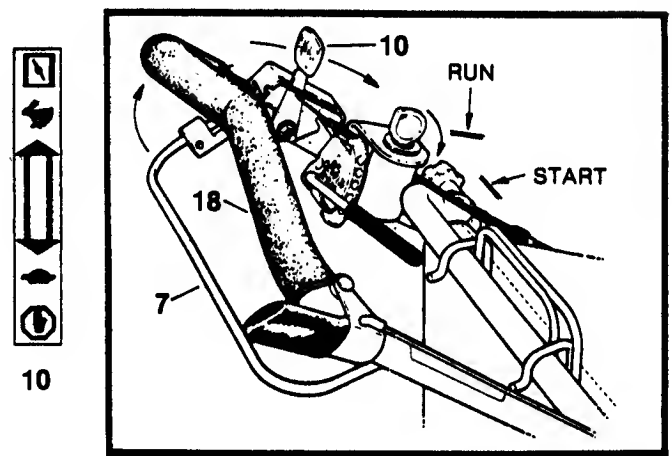

FIG. 4-ELECTRIC START
ELECTRIC START: The KEY/IGNITION switch (13) has two positions - RUN & START. The engine **CAN NOT** be stopped at the switch! Stopping the engine is accomplished by either releasing the BLADE CONTROL or by moving the ENGINE CONTROL to STOP position. Refer to FIG. 4.
1. Move ENGINE CONTROL lever (10) to START (CHOKE) position.
2. Hold BLADE CONTROL (7) firmly against UPPER HANDLE (18) - otherwise the engine will NOT start.